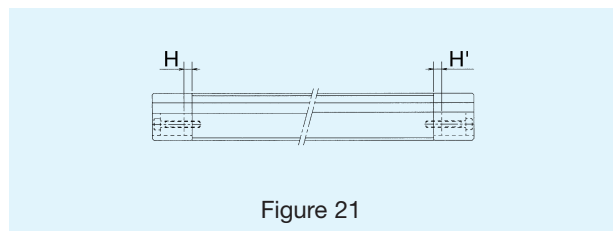

Figure 21
5. Apply tension to the plate cover. Tighten the tension-adjustment bolts at both ends of the LM rail so that the tension is well balanced. At this time, care must be taken to ensure that there is no significant difference between the dimension H and the dimension H' illustrated in figure 21, as the tightening margin on one end of the LM rail may be eliminated.